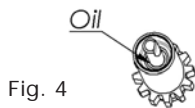

Fig. 4
5. Clean the piston rod and tool holder (FXA-V) carefully with a soft cloth and apply a few drops of lubrication oil, type Diprofil FNA-K or equivalent, according to fig 4 and 5.